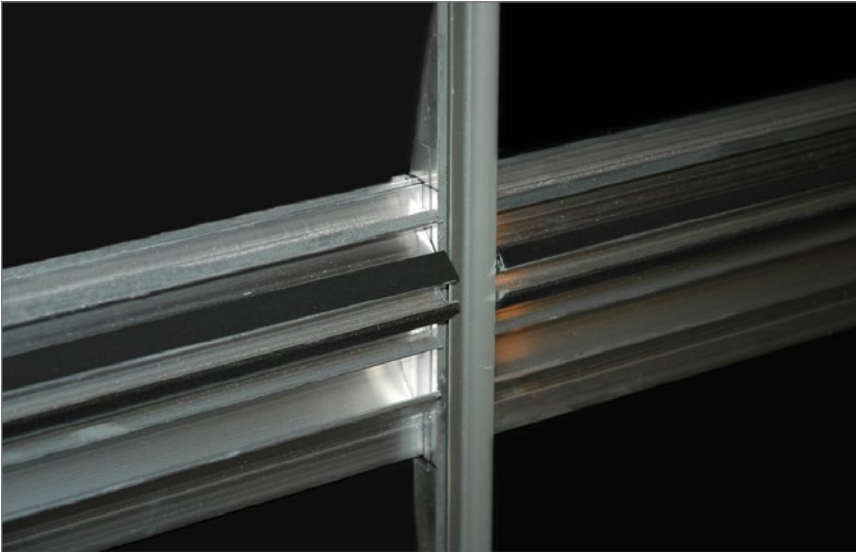

Figure 10: CSF tape applied to Horizontal extrusions behind tiles.
STEP 6: Apply 1/16" (2mm) CSF tape to Horizontal extrusions behind tiles; press tiles to fit over CSF tape for seal. This is at Antler and Thief extrusions (see Figure 10).